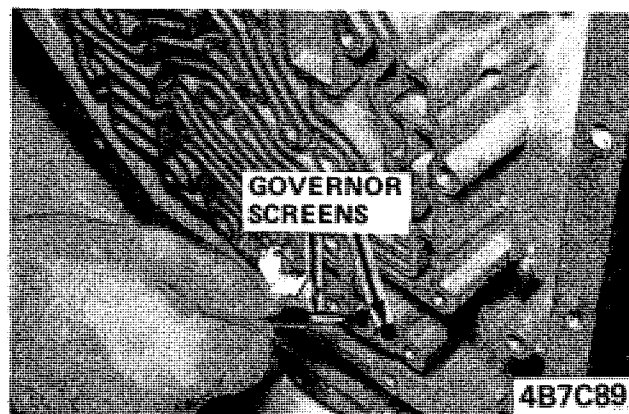

Figure 7C-45
2. Remove governor screens from case and clean. See Figure 7C-45.